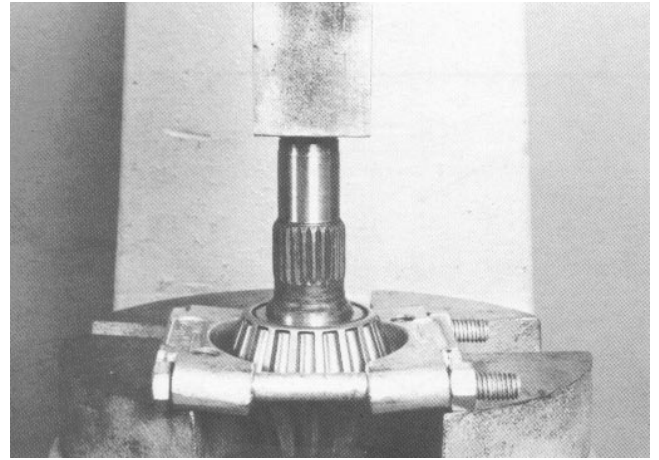

Figure 32
13. Clamp the inner pinion bearing with a universal bearing remover (Fig. 32). Position the unit in a press and carefully push the drive pinion out of the bearing.